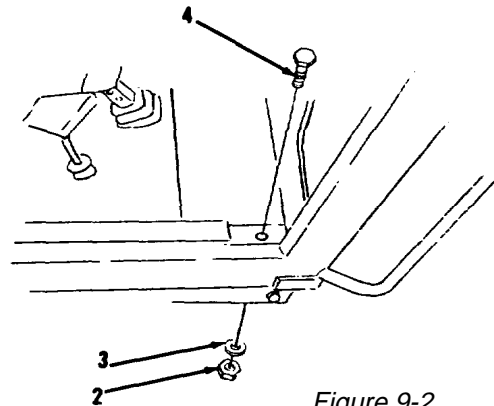

Figure 9-2.
2. Attach hoist and sling to two eyebolts (1) and front of ROPS (11).
3. Remove two nuts (2), washers (3) and bolts (4, Figure 9-2) from front corners of operator's cab.